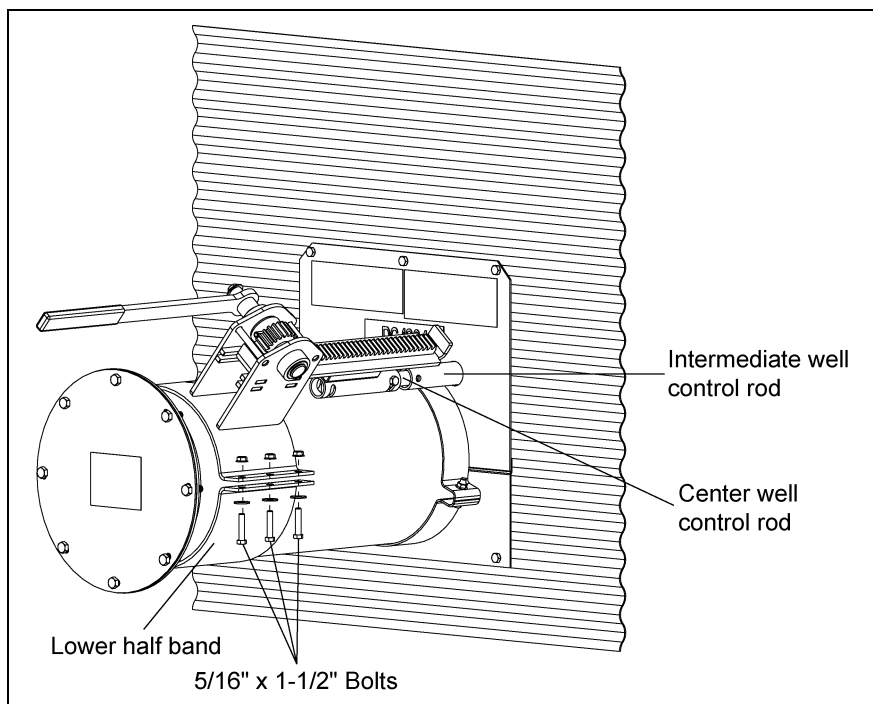

Figure 4P 8" and 10" Systems
- With rack and pinion fully extended, attach lower half band and secure to unload tube with six (6) 5/16" x 1-1/2" bolts, washers and serrated flange nuts. (See Figure 4P.)